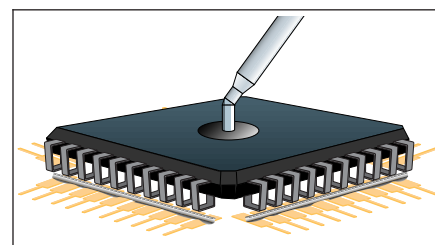

Figure 1 Position Component
3. Position component ensuring proper lead-to-land alignment. Hold component in place using the vacuum pick-up tool or tweezers. (See Figure 1.)